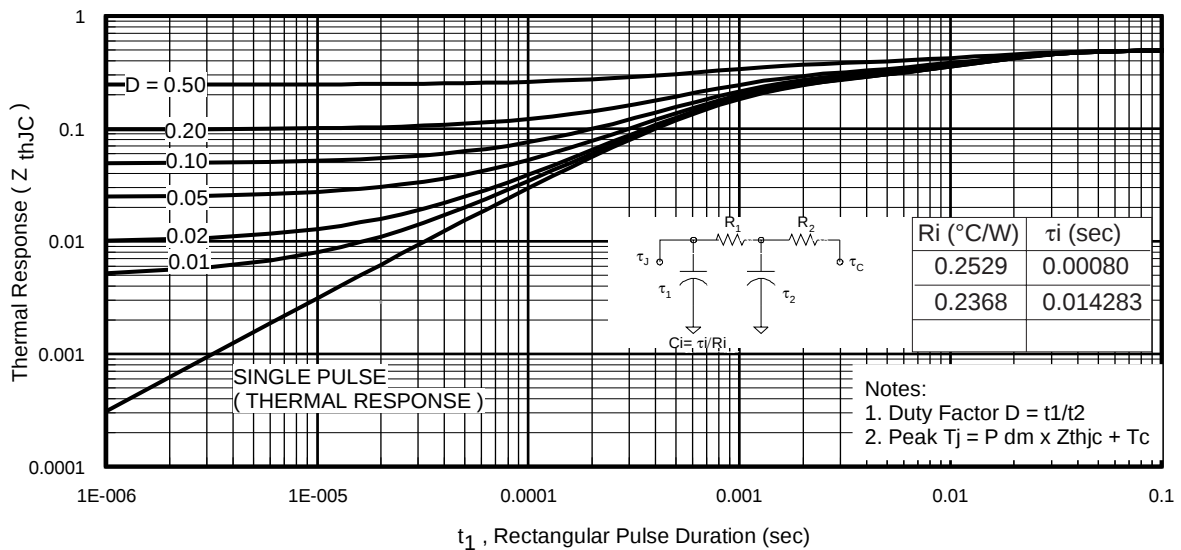

Fig 11. Maximum Effective Transient Thermal Impedance, Junction-to-Case
① Repetitive rating; pulse width limited by max. junction temperature. (See fig. 11).
② Limited by T_{Jmax} , starting $T_J = 25^\circ\text{C}$, $L = 0.12mH$
$Z_{thJC}(D, t_{av})$ = Transient thermal resistance, see figure 11)